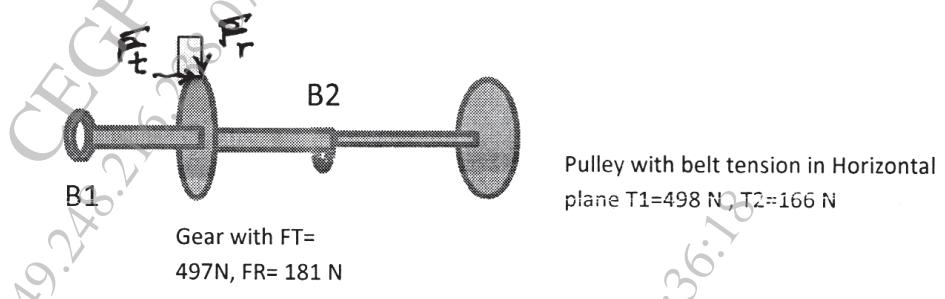

Figure 1
- Q6)** A transmission shaft rotating at 720 rpm and transmitting power from the pulley to a spur gear as shown in Fig. 1. The belt tensions on the pulley and the gear tooth forces on the gear are represented in the Fig. 1. The centre distance between B1 and spur gear is 100 mm, Spur gear and B2 is 150 mm and B2 to Pulley is 150 mm respectively. The weight of the pulley and gear are 100 N and 40 N respectively. The diameter of the shaft at the bearings is 20 mm. Take load factor as 2.5 and expected life of 90% the bearings is 8500 hours. Select the rolling contact bearing from manufacturer's catalogue. Use Table 1 and 2. [10]